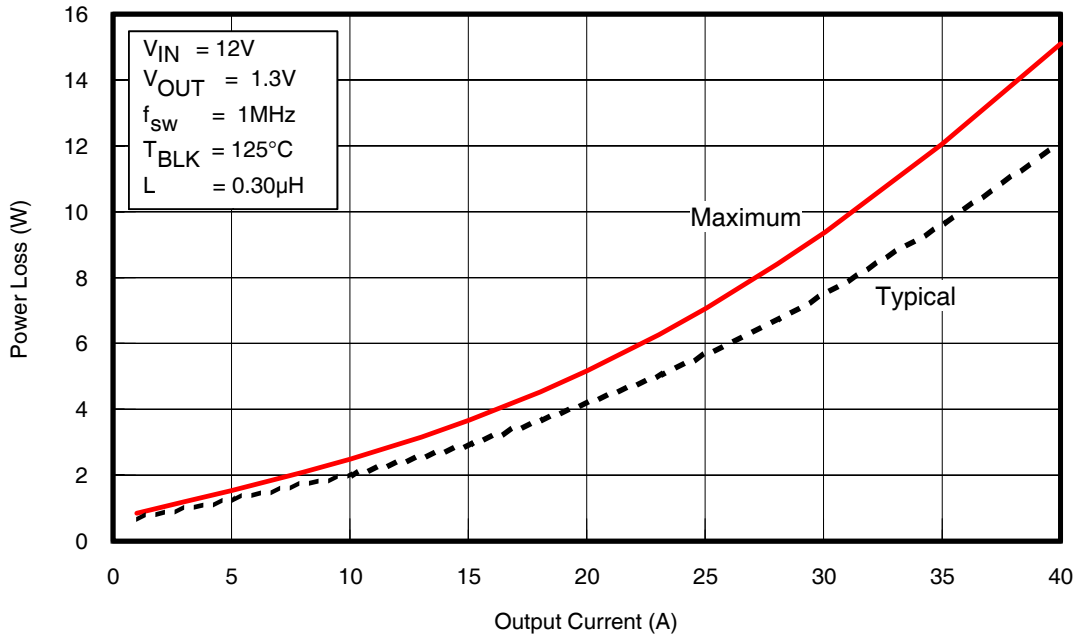
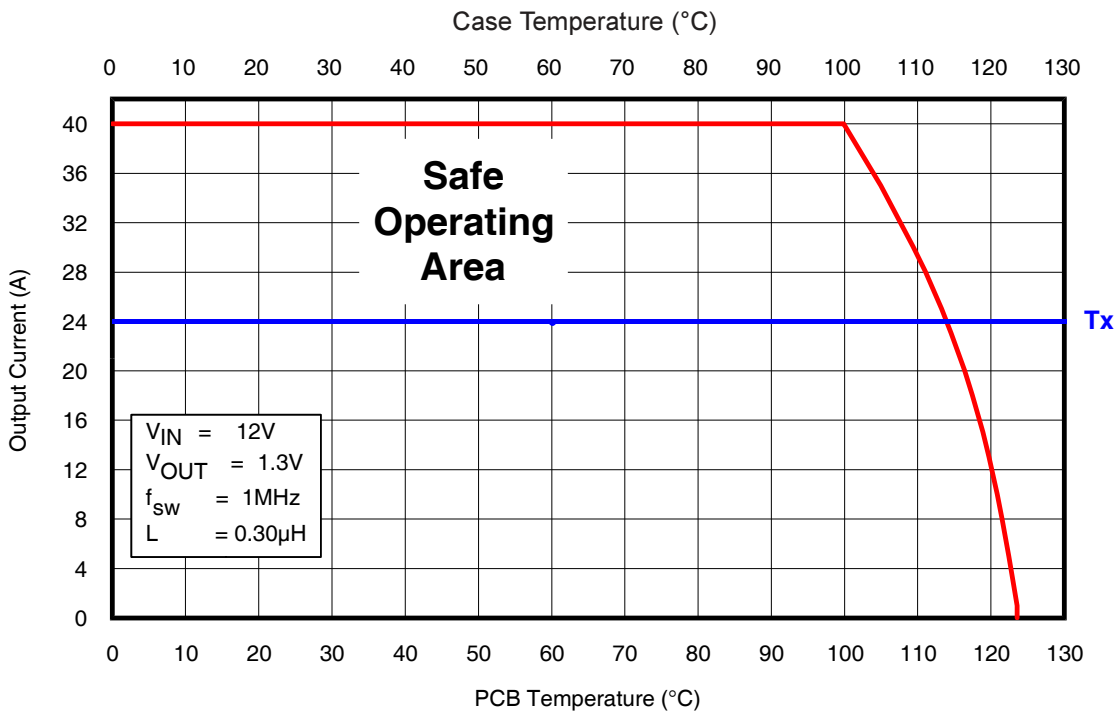
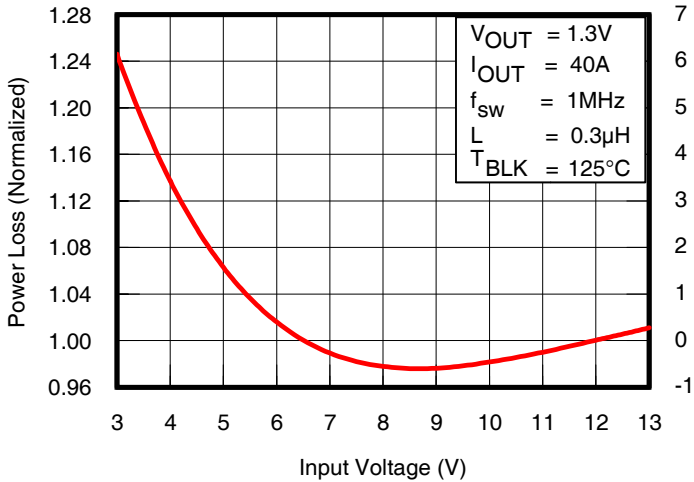

Fig. 1: Power Loss vs. Current
Fig. 2: Safe Operating Area (SOA) vs.  $T_{PCB}$  &  $T_{CASE}$
Fig. 3: Normalized Power Loss vs.  $V_{IN}$
To calculate power loss for a given set of operating conditions, the following procedure should be followed: Determine the maximum current for each iP2003A and obtain the maximum power loss from Fig 1. Use the curves in Figs. 3, 4, 5 and 6 to obtain normalized power loss values that match the operating conditions in the application. The maximum power loss under the operating conditions is then the product of the power loss from Fig. 1 and the normalized values.
To calculate the SOA for a given set of operating conditions, the following procedure should be followed: Determine the maximum PCB temperature and Case temperature at the maximum operating current of each iP2003A. Obtain the SOA temperature adjustments that match the operating conditions in the application from Figs. 3, 4, 5 and 6. Then, add the sum of the SOA temperature adjustments to the  $T_x$  axis intercept in Fig 2.
- (Fig. 1) Maximum power loss = 15W
- (Fig. 3) Normalized power loss for input voltage  $\approx 0.98$
- (Fig. 3) SOA Temperature Adjustment for input voltage  $\approx -0.5^{\circ}\text{C}$